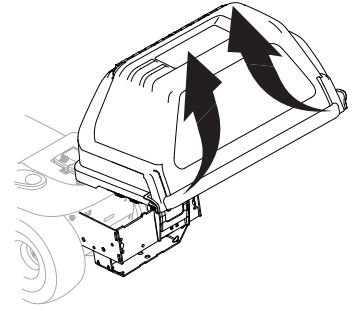

Figure 24
2. Open the grass catcher cover by pushing in on the rear, right-side tab and rear left-side tab, as seen in Figure 24, and lifting the cover from the rear of the bagger cover. Do not remove the hose assembly from the tractor.